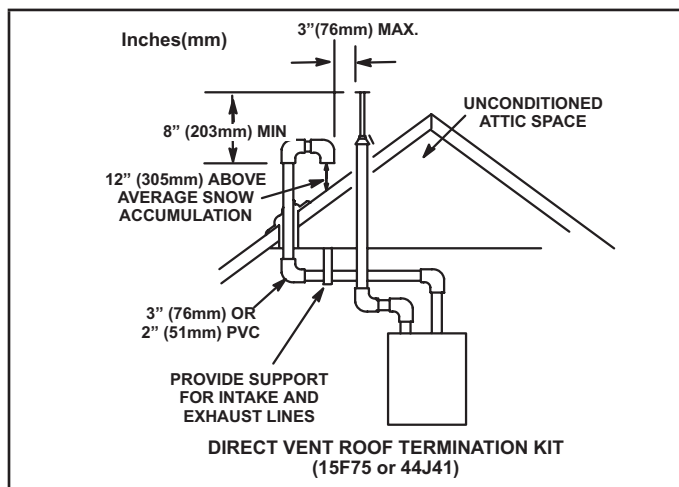

FIGURE 30
In both Non-Direct Vent and Direct Vent applications, the vent termination is limited by local building codes. In the absence of local codes, refer to the current National Fuel Gas Code ANSI Z223-1/NFPA 54 in U.S.A., and current CSA-B149 Natural Gas and Propane Installation Codes in Canada for details. Position termination according to location given in FIGURE 28 or FIGURE 30. In addition, position termination so it is free from any obstructions and 12" above the average snow accumulation.
Intake and exhaust pipes may be routed either horizontally through an outside wall or vertically through the roof. In attic or closet installations, vertical termination through the roof is preferred. FIGURE 30 through FIGURE 38 show typical terminations.
- 3 - On roof terminations, the intake piping should terminate straight down using two 90° elbows (FIGURE 30).